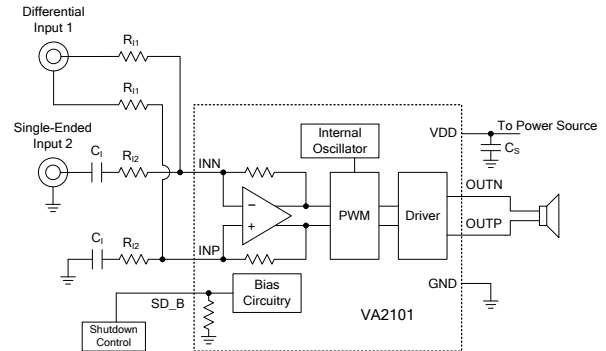

Figure 6. Dual Input with a Single-Ended Input and a Differential Input Configuration
A typical application with one single-ended source and one differential source shows in Figure 6. Ground noise can couple in through INP terminal with this method. It is better to use dual differential inputs. The cut-off frequency of the single-ended input is set by  $C_I$  shows in Equation (13). To assure that each input is balanced, the single-ended input must be driven by a low-impedance source even if the input is not in use.